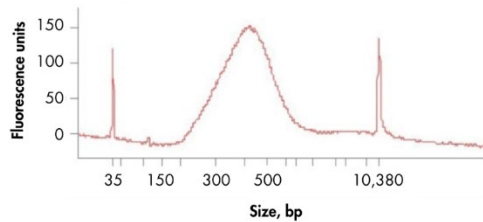

Figure 4. TapeStation trace of library prepared with the QIAseq UPXome RNA Library Kit.
21. Assess the quality of the library using a QIAxcel Connect, Bioanalyzer, TapeStation[®], or Fragment Analyzer. Check for the expected size distribution of library fragments. An example library is shown in Figure 4.